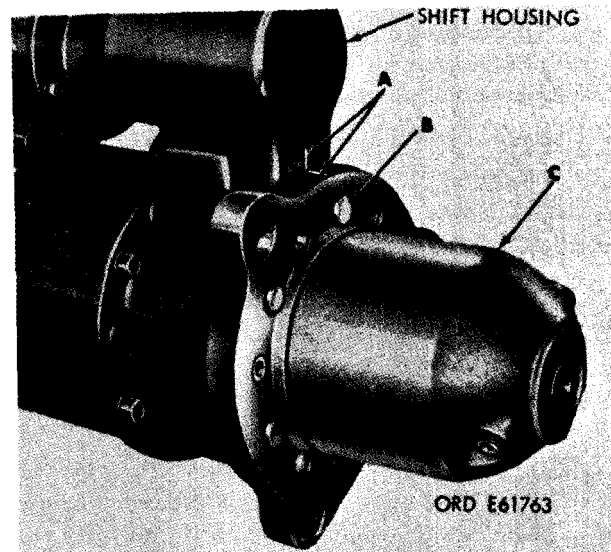

Figure 3-5. Removing or installing pinion housing assembly attaching parts.
(1) Scribe alinement marks (A, fig. 3-5) on shift housing and pinion housing (C) for proper positioning of pinion housing during assembly. Remove six hex-socket head screws (B). Tap around edges of pinion housing (C) to loosen housing pilot from its bore in shaft housing.